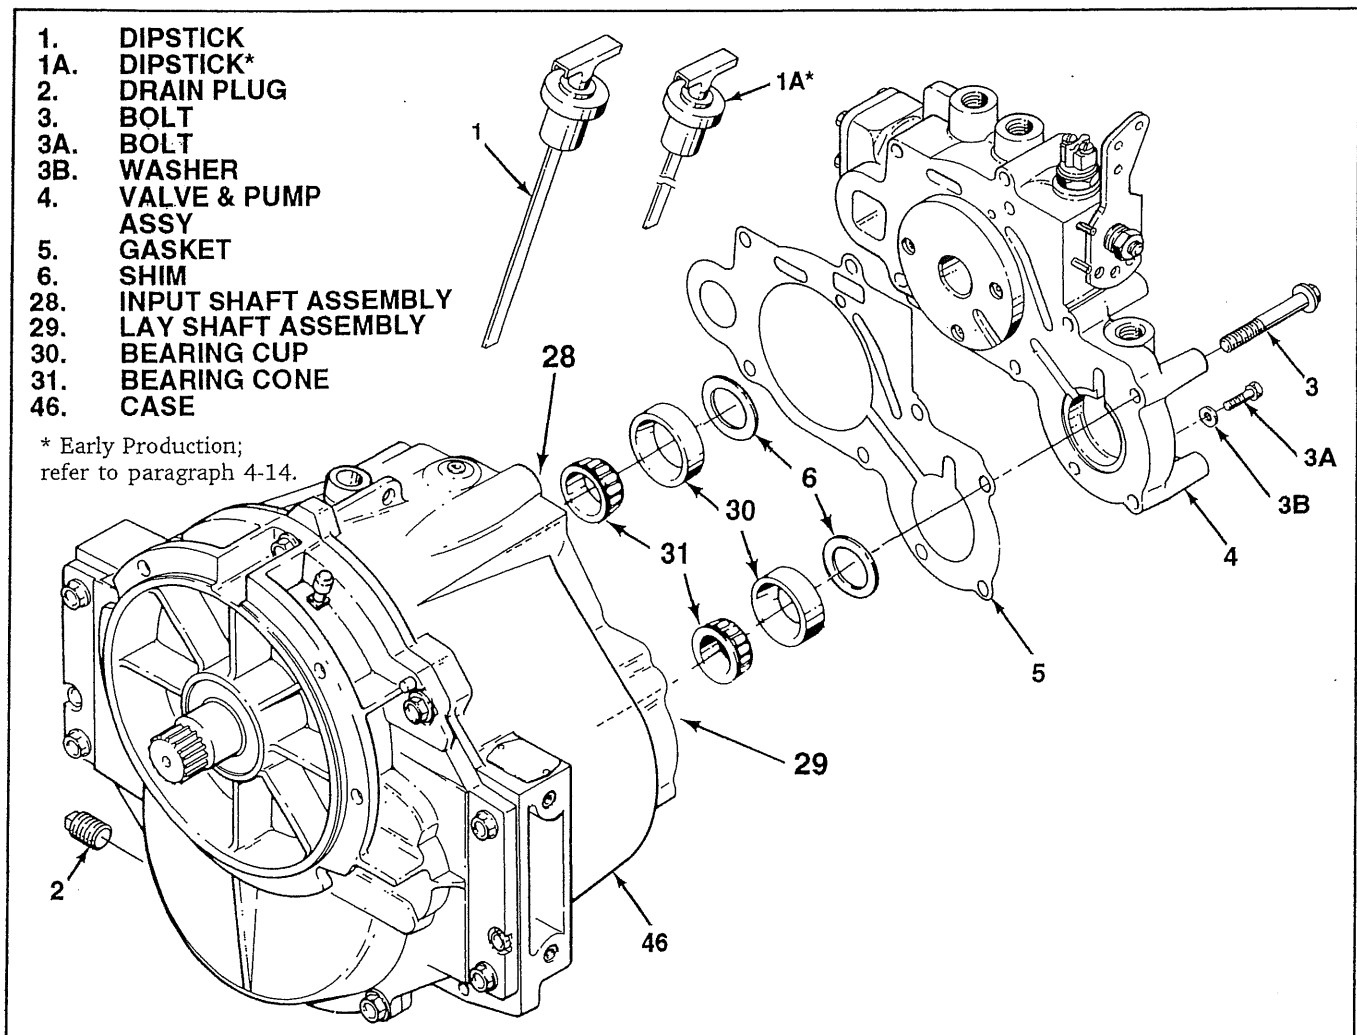

Figure 3-1. Valve and Pump Housing Assembly
**2-19. VALVE AND PUMP ASSEMBLY REPLACEMENT WITH TRANSMISSION MOUNTED ON ENGINE.** If trouble is isolated to the control valve and pump assembly and there is no other reason to remove the transmission from the boat, it is possible to replace the valve and pump assembly with the transmission installed in the boat. However, when removing the valve and pump assembly (see figure 3-1), extreme care must be taken to capture and tag the exact number of shims (6) used at each location. If shims drop out or become lost or intermixed for any other reason, abandon this replacement procedure, remove the transmission from the boat and proceed as specified in Sections 3 through 5 in this manual.
**2-20. VALVE AND PUMP ASSEMBLY REMOVAL** (see figure 3-1) Remove valve and pump assembly as follows:
1. Withdraw valve and pump assembly (4) with extreme care so as not to dislodge any shims (6). If any shims stick to valve and pump assembly rather than being retained in case (46), remove, identify and save these just as soon as clearance permits.
2. Save and record for possible future identification all shims (6) and tag as "INPUT" or "LAY" coming from input shaft assembly (28) or lay shaft assembly (29).
With the transmission held in a suitable fixture and in its approximate installed position, begin disassembly as follows (see figure 3-1):